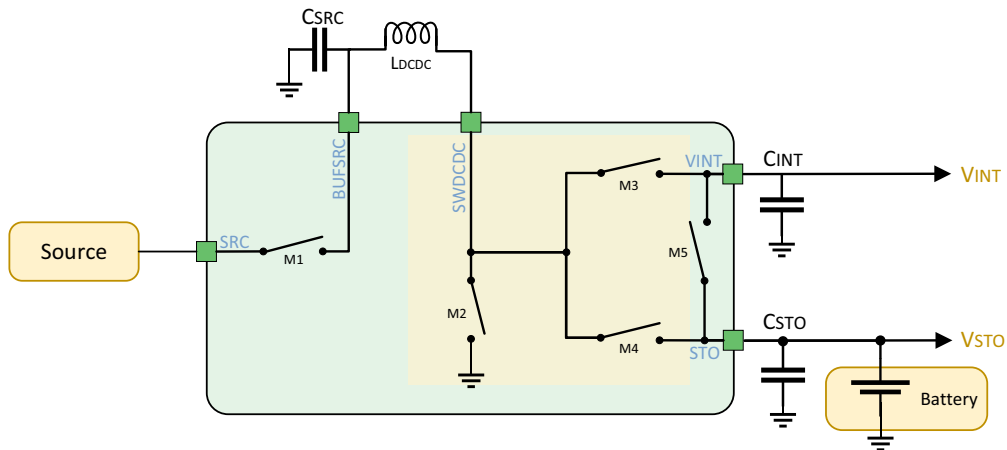

Figure 7: Simplified schematic view of the AEM0090x
- If keep-alive is enabled, **V_INT** is supplied by the battery through M5 (Figure 7), so the AEM0090x stays in **SUPPLY STATE** while energy is available on the battery;